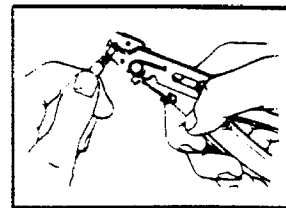

Figure 16
- E. Remove dielectric at the mark with a simple wire stripping plier (Fig. 16).